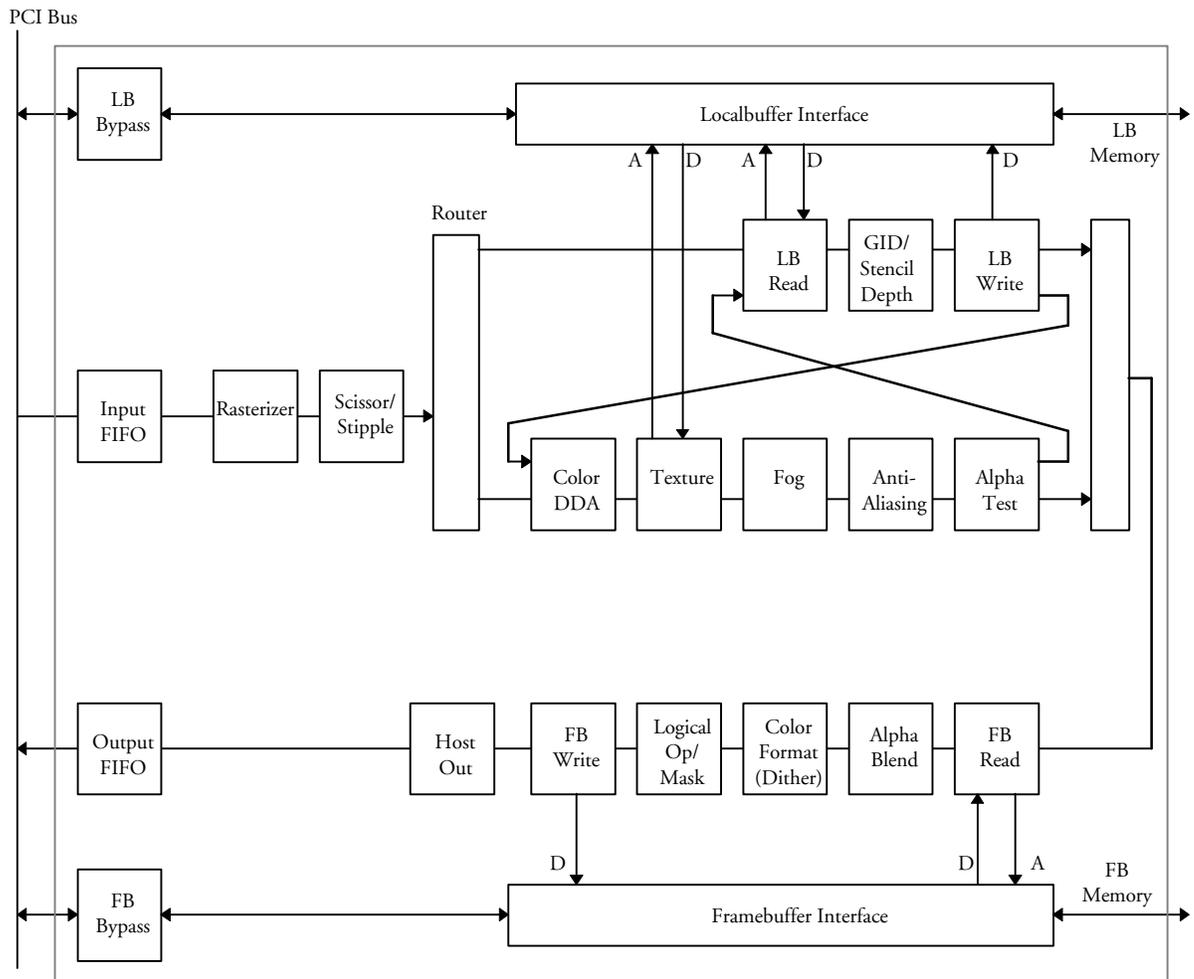

Figure 0.1 HyperPipeline
This section describes each of the units in the graphics HyperPipeline. Figure 0.1 shows a schematic of the pipeline. In this diagram, the localbuffer contains the pixel ownership values (known as Graphic IDs), the FrameCount Planes (FCP), Depth (Z) and Stencil buffer. The framebuffer contains the Red, Green, Blue and Alpha bitplanes. The units in the HyperPipeline are: